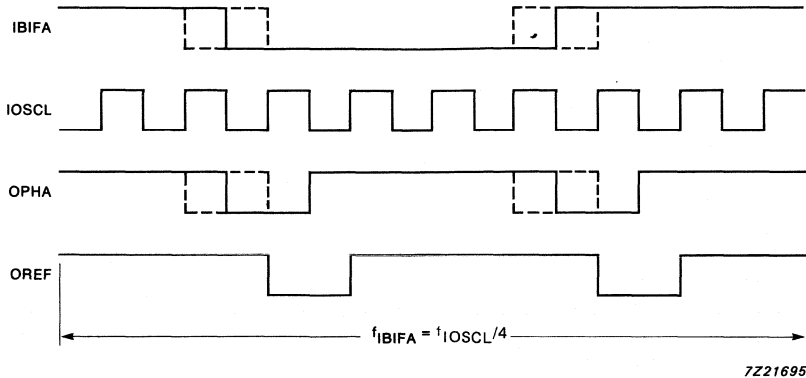

Fig.3 Generation of phase output signal (OPHA) and phase reference signal (OREF); $f_{IBIFA} = f_{IOSCL}/4$.
- Generates a phase output signal (OPHA) and a phase reference signal (OREF). If the frequency of the biphasic input signal (IBIFA) equals 1/4 of the system clock frequency ($f_{\text{IOSCL}}/4$) then the IC generates OPHA and OREF as shown in Fig.3. If the frequency of the biphasic input signal (IBIFA) is greater or less than 1/4 of the system clock frequency then the IC generates OPHA and OREF as shown in Fig.4.